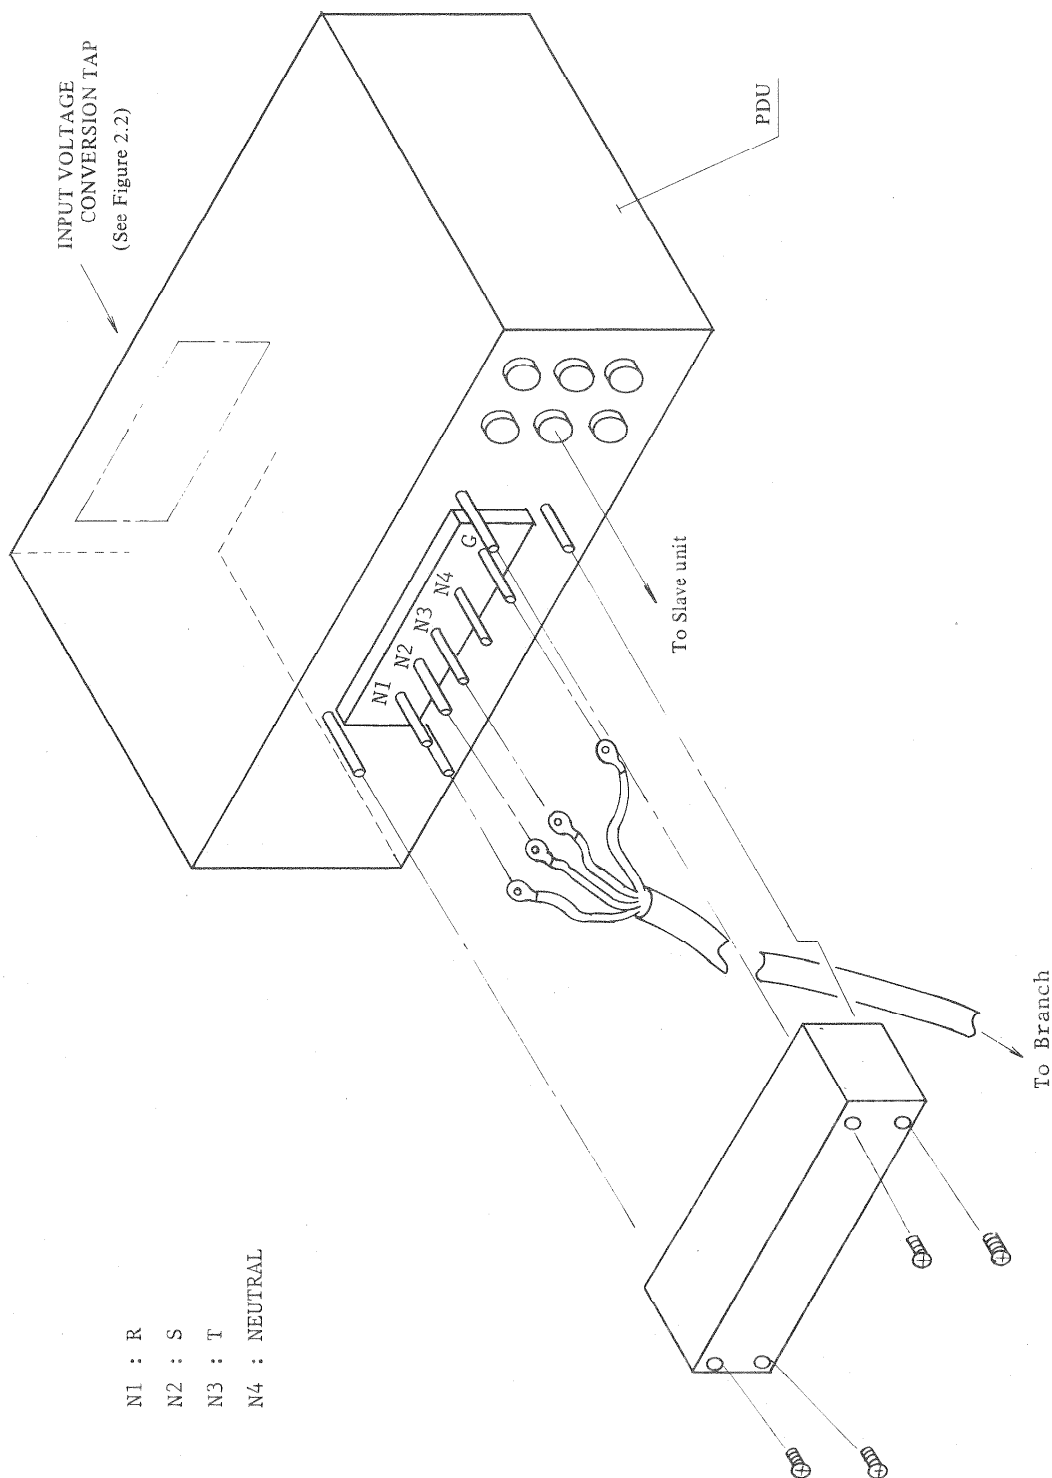

Figure 2.1 PDU connection
- (1) Pull the PDU to the side and remove the rear cover (Figure 2.1). The location of the PDU is shown in Figure 1.4. The PDUs are delivered inside A overhead package (new equipment only.)